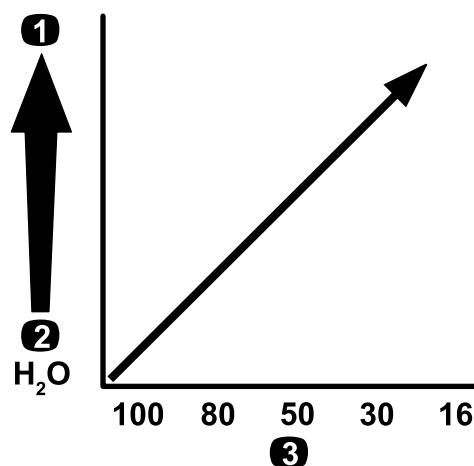

Figure 78
**Important:** When you spray with higher viscosity (thicker) chemical products or solutions with wettable powders, you may need to use a coarser screen mesh for the optional pressure-filter; refer to Figure 78.